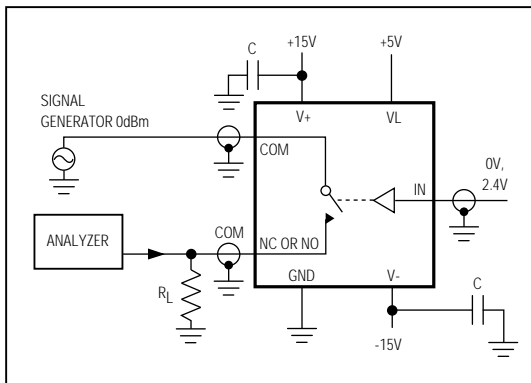

Figure 5. Off-Isolation Test Circuit
**Note 6:** See Figure 5. Off Isolation =  $20 \log_{10} [V_{COM} / (V_{NC} \text{ or } V_{NO})]$ , VCOM = output, VNC or VNO = input to off switch.